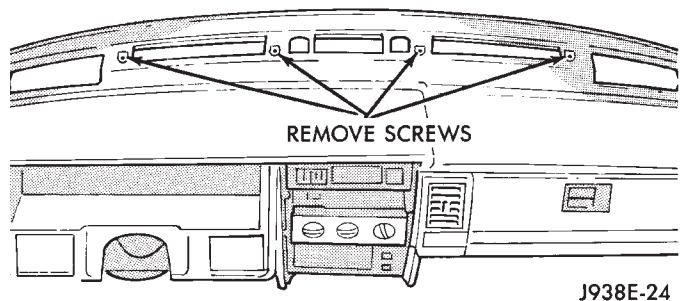

Fig. 9 Upper Dash Pad Attaching Screws
- (4) Remove center bezel.
- (5) Remove 2 screws holding dash pad located behind top of center bezel.
- (6) Gently pry defroster grille out of dash pad.
- (7) Unplug sensors (if equipped) and set defroster grille aside.
- (8) Remove 4 screws in defroster duct opening holding dash pad (Fig. 9).